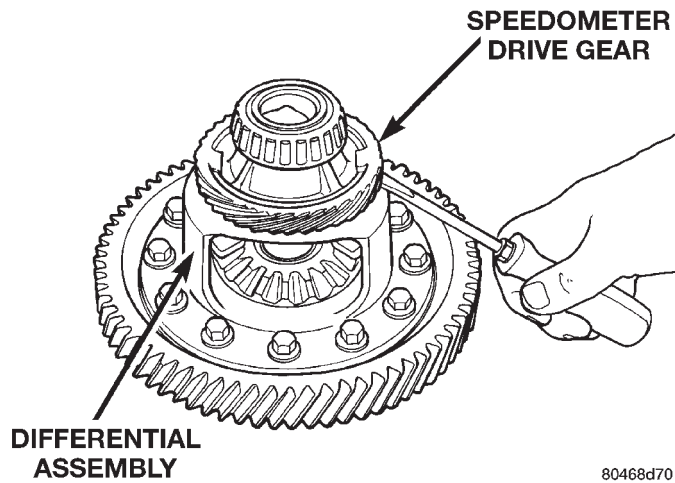

Fig. 112 Pry Off Speedometer Drive Gear
(1) Pry the plastic speedometer drive gear off of the differential case using a flat blade pry tool (Fig. 112) (Fig. 113).